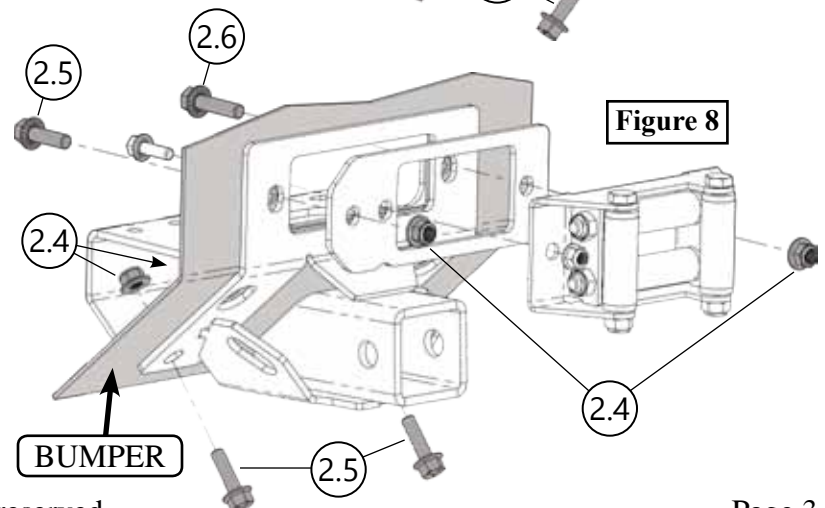

Figure 8
4. STANDARD WINCH: Install upper bolts (2.5 and 2.6) from the backside. Go through winch mount, bumper, receiver, fairlead adapter, fairlead, and secure with nuts (2.4). See **Figure 8**.